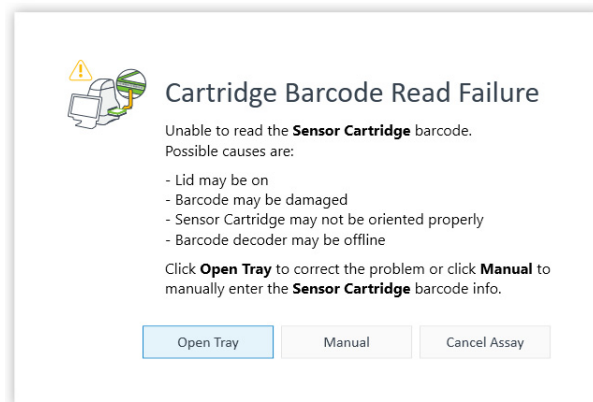

Figure 11 Cartridge Barcode Read Failure dialog box.
For any sensor cartridge barcode read errors, Wave Pro Controller displays a dialog box and a choice of three corrective actions. (See Figure 11.)
- 1 Click the **Tray Widget**. Cartridge Barcode Read Failure dialog box appears. (See Figure 11 on page 33.)